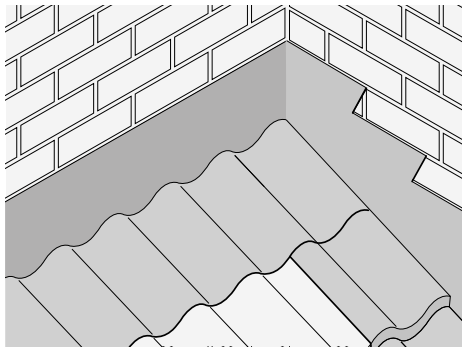

Fig. 27 – Top edge abutment
- Dress lead to profile of tiles (Fig. 27).